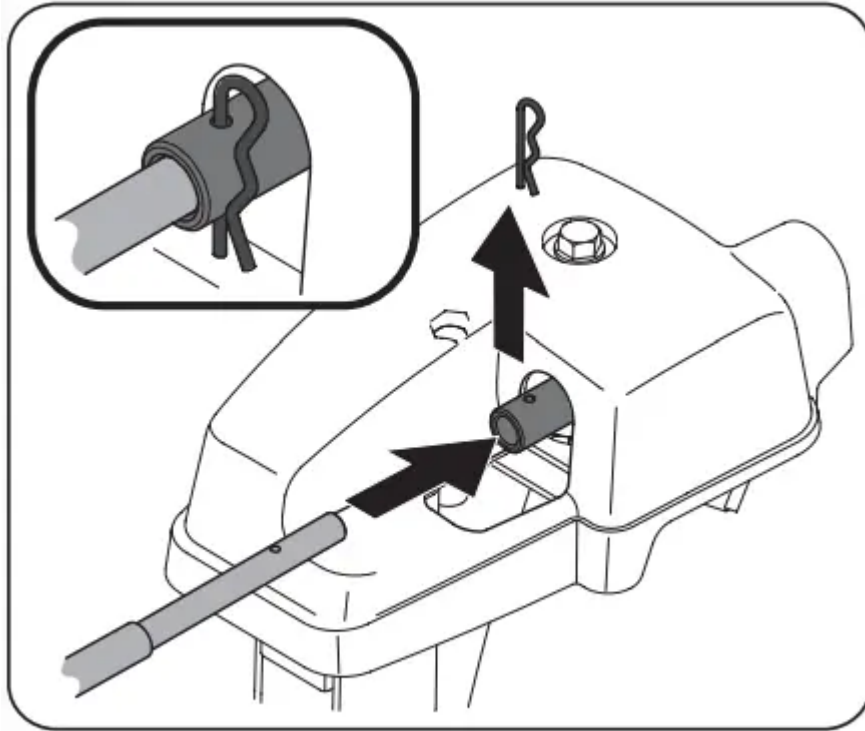

Figure 29
4. Remove hairpin clip from rear of chute control assembly. See Figure 29.
5. Insert flex shaft removed during handle assembly from lower handle into rear of chute directional control head. See Figure 29. Secure flex shaft to chute control head with hairpin clip removed in Step 4.